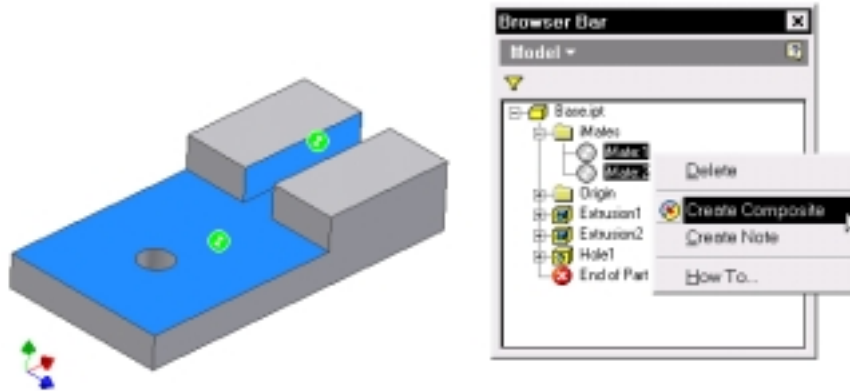

Figure 3-25
3. Combine the iMate constraints into a single composite iMate. (See Figure 3-25.)